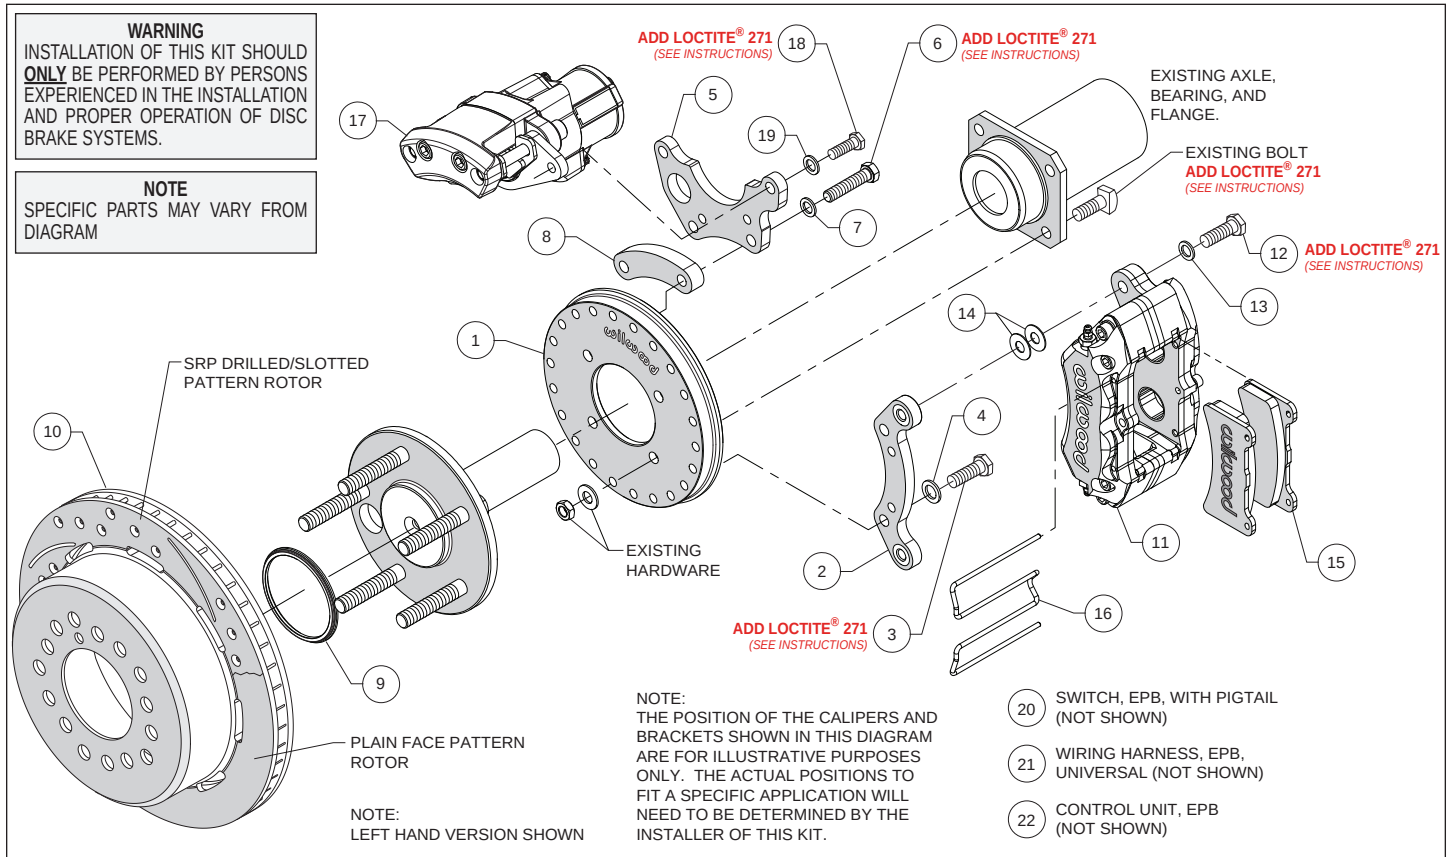
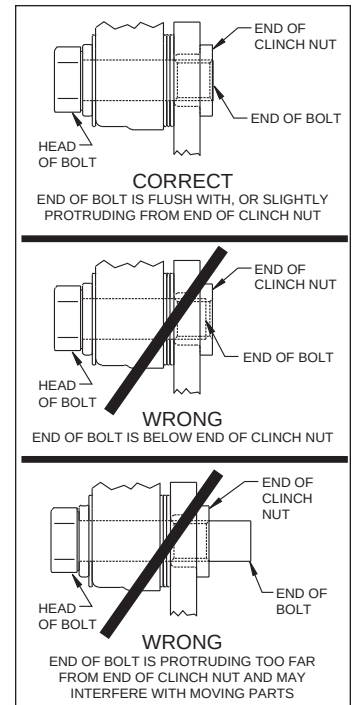

Figure 1. Typical Installation Configuration
Figure 4. Clinch Nut Engagement Diagram
(numbers in parenthesis refer to the parts list, and Figure 1 on the preceding pages): **CAUTION:** All mounting bolts must fully engage clinch nuts. Be sure to check that all bolts are either flush or protruding through flanged side of clinch nut after shimming, Figure 4.
- Orient the backing plate (1) as shown in Figure 1 and Photo 1, and mount it to the axle housing flange using the Original Equipment Manufacturer (OEM) bolts, washers and nuts, Figure 1. Ensure the backing plate fits flush against the axle housing flange. Apply red *Loctite*® 271 to the OEM bolt threads and torque to OEM specifications.
•Start by determining the best location for the service caliper (11). This caliper is usually mounted in the 3:00 or 9:00 o'clock position, but may be rotated up or down approximately 45 degrees and still allow for proper bleeding, Photo 2. Orient the service caliper bracket (2) as shown in Figure 1 and Photo 3, and install to the backing plate (1) in the desired location using bolts (3) and washers (4). Temporarily tighten bolts. Next, mount the service caliper to the bracket using bolts (12) and washers (13). Temporarily tighten bolts. Check that the caliper (including inlet fitting and hose) has sufficient clearance to all surrounding components through the full suspension travel. Relocate the caliper/bracket on the backing plate as needed to ensure proper clearance is achieved.
•Determine the best location for the EPB caliper (17). **NOTE:** The EPB caliper motor extends farther inboard than the service caliper and therefore needs additional consideration when determining a mounting location with sufficient clearance. In the example application shown in Photo 4, the EPB caliper has sufficient inboard clearance to the leaf spring. However, if the EPB caliper were mounted closer to the 12:00 o'clock position, the inner body of the vehicle would hit the caliper during full compression of the suspension.
•Orient the EPB caliper bracket (5) as shown in Figure 1 and Photo 5, and install to the backing plate (1) in the desired location using bolts (6), washers (7), and spacer (8). Temporarily tighten bolts. **NOTE:** The EPB bracket is reversible. In one direction the bracket will position the EPB caliper closer to the service caliper, and vice versa if reversing the bracket. Next, mount the EPB caliper (17) to the bracket using bolts (18) and washers (19). Temporarily tighten bolts. **NOTE:** EPB calipers are Left and Right handed, however they can be used on either side of the vehicle to best suit your specific application. Check that the EPB caliper (including wiring harness connector) has sufficient clearance to all surrounding components through the full suspension travel. Relocate the EPB caliper/bracket on the backing plate as needed to ensure proper clearance is achieved.
•**NOTE:** Please reference the caution statement at the beginning of the assembly instructions. Remount the service caliper (11) onto the caliper mounting bracket (2) using bolts (12) and washers (13), as shown in Figure 1. Initially place two .035" thick shims (14) on each bolt between the caliper and the bracket, Photo 7. Temporarily tighten the mounting bolts and view the rotor (10) through the top opening of the caliper. The rotor should be centered in the caliper, Photo 8. If not, adjust by adding or subtracting shims (14) between the bracket (2) and the caliper (11). Always use the same amount of shims on each of the two mounting bolts. **NOTE:** The end of each bolt must be flush with or slightly protruding from the head of the clinch nut, as shown in Figure 4. If necessary place spare shims (14) between washer (13) and caliper mounting ear to achieve the proper clinch nut engagement. Once the caliper alignment and clinch nut engagement are correct, remove the bolts one at a time, apply red *Loctite*® 271 to bolt threads, and torque to 40 ft-lb.
•Install the disc brake pads (15) into the service caliper (11), with the friction material facing the rotor (10), Photo 9. Secure the pads in place using pad clip retainer (16), Photo 10.